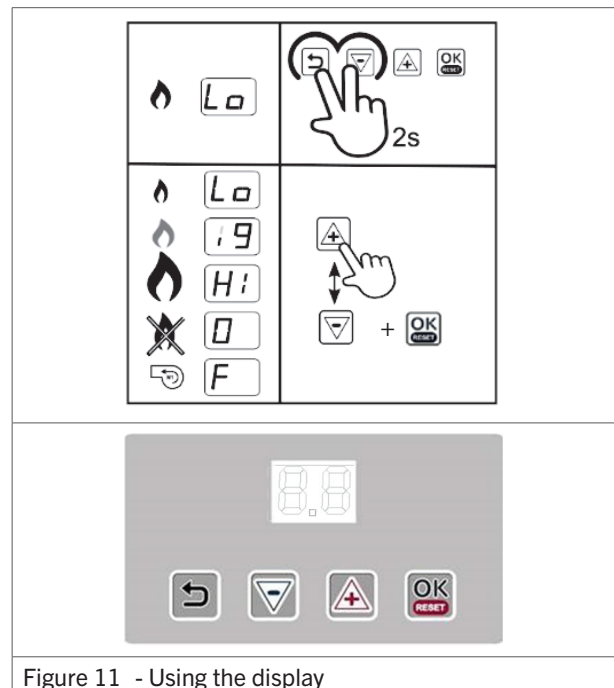

Figure 11 - Using the display
1. Press and hold the **Return** and (-) button for a few seconds (figure 11). The display will alternate between Lo and St. This means the heater will start up in Low fire.
2. Press the (+) and (-) buttons to toggle between Low and High fire (figure 11).